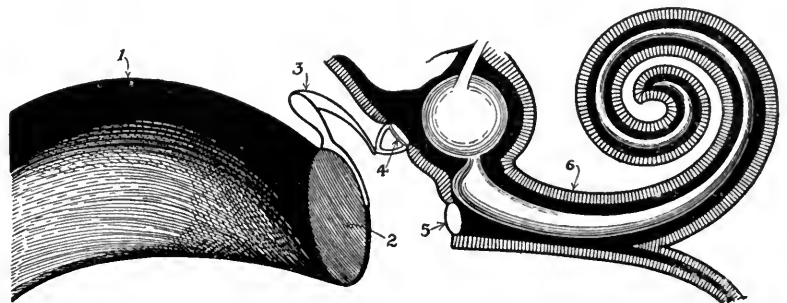

FIG. 4
The human ear is constructed in principle almost exactly like our model as will be seen from Fig. 4. In this figure we have the external ear (1) corresponding to the horn for gathering up the sound and concentrating it on the diaphragm or drumskin (2). The leverage between the drumskin and the second diaphragm in the liquid chamber is obtained by a system of three bones (3) named from their appearance, the hammer, the anvil and the stirrup. This particular form of lever is employed to prevent any unusual shock from injuring the delicate apparatus of the inner ear, since these bones are arranged so that they slip over each other at their joints if too great a motion is imparted to them. The liquid chamber is shown at (6). It consists of a bony case shaped like a snail shell and named from its appearance the Cochlea. The end of the lever system is attached to the second diaphragm known as the Oval Window (4). The third diaphragm for the purpose of allowing freedom of motion of the liquid shown at (5) is known as the Round Window. In the liquid chamber or Cochlea (6) are located the thousands of vibrating bodies of various shapes and sizes which take the place of the tuning forks in our model. The microphones of the model are replaced by nerve terminals attached to each of the vibrating bodies, each terminal being connected to the brain or measuring instrument by its own nerve fibre.
From this point of view, the extreme small size of the parts of the ear is significant as will be seen from Fig. 4 and as though Nature had not gone far enough in this direction to astonish us, she tucked into the corners the apparatus by which we balance ourselves on two feet. The smallness of the fibre which connect the vibrators with the brain is even more extraordinary. Some idea of their size may be gained from the fact that the entire cable, containing thousands of nerves, is less than  $\frac{1}{16}$  inch in diameter.